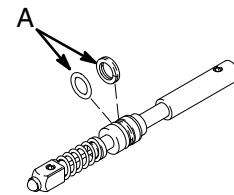

Fig. 8
6. Grease the rings (A) of the new needle (2c\*). See Fig. 8.